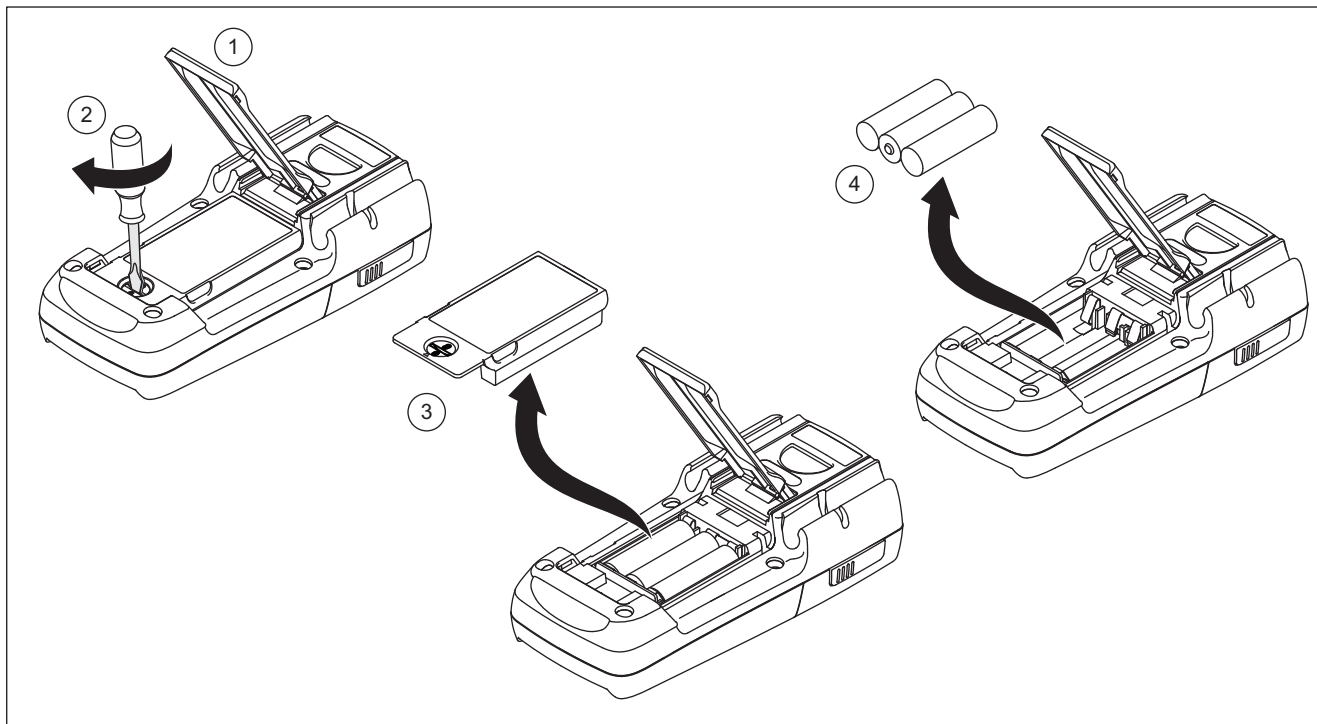

Figure 9. Meter Base Battery Replacement
2. Lift the tilt stand up as shown in Figure 9.